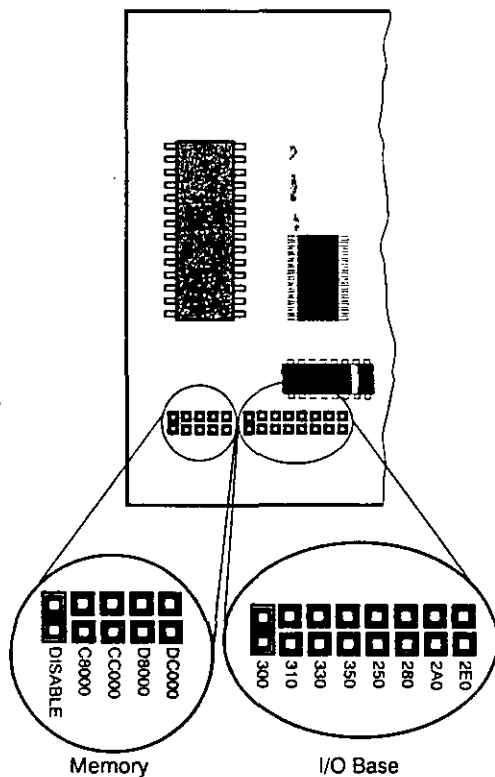

Figure 4. Option Jumpers
5. Check the setting of the adapter's I/O base address jumper (shown in Figure 4).
6. Check the setting of the adapter's memory base address jumper (shown in Figure 4).